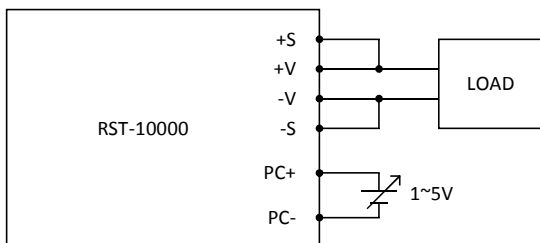

Fig 4.1
- (b)Connect an external voltage source between PC+ and PC- on CN992 or CN993 as shown in Fig 4.1.